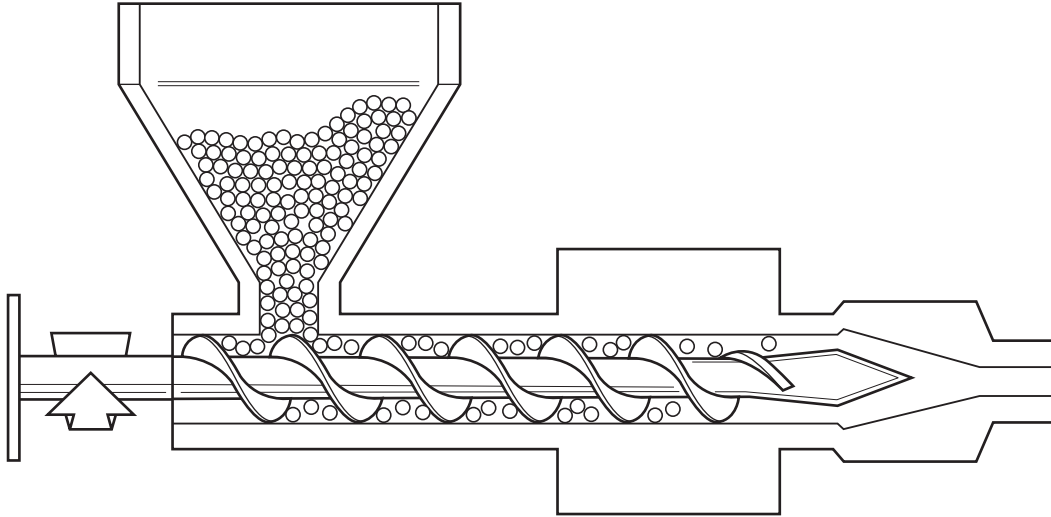

Fig. 8
- (d) The support could be made by means of extrusion moulding. Fig. 8 shows an extrusion moulding machine.
Add notes to Fig. 8 to describe the process of extrusion.